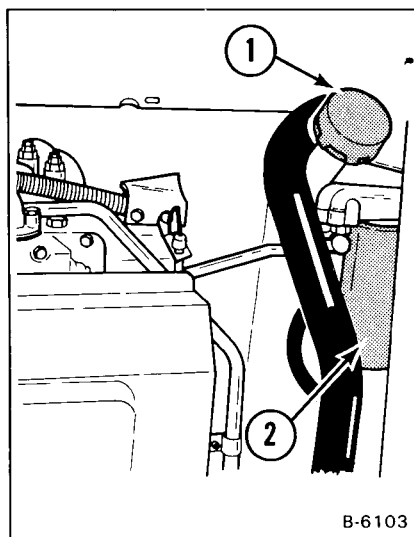
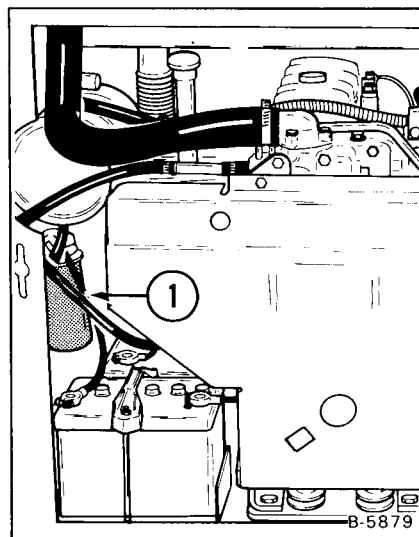

Fig. 1-34 Filter Location
Fig. 1-35 Filter Location
- (1) Put the Bobcat Forklift on a level surface.
- (2) Put the vertical mast fully down.
- (3) Remove the dipstick and check the level of the fluid (Fig. 1-34, Item 1).
- (3) When all the fluid is out, install the plug and tighten.
- (4) Remove the oil fill cap/dipstick from the reservoir (Fig. 1-34, Item 1).
- (1) Clean the area around the filter housings.
- (2) Remove the filter elements (Fig. 1-34, Item 2 & Fig. 1-35, Item 1) with a filter wrench.